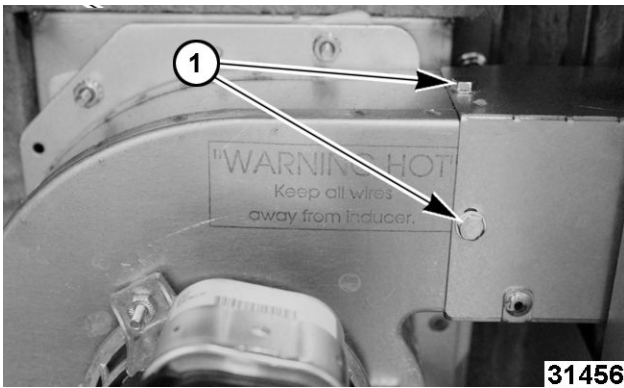

Fig. 99
7. Remove gas flue screws (1, Fig. 99).